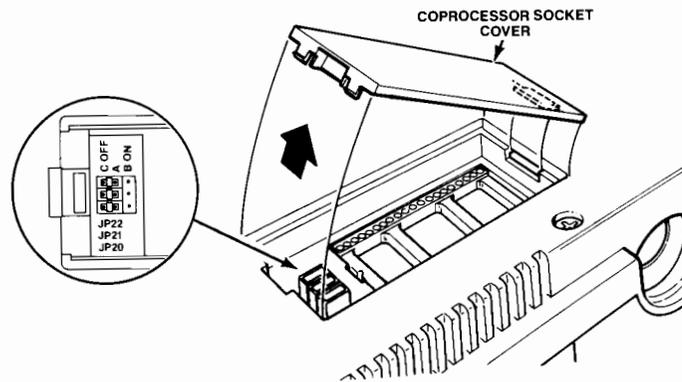

Figure 5-14. Removing the Cover
4. Use a flat blade screwdriver to carefully pry up on the cover, as shown in Figure 5-14.